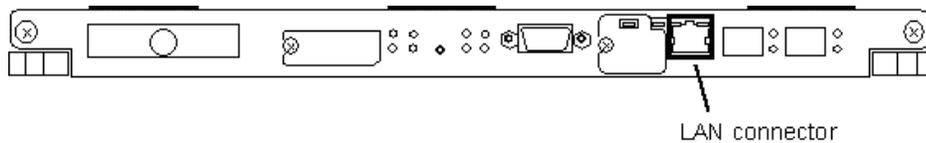

Figure 8.1 LAN Connector Location
2. Connect the LAN cable with the LAN connector shown in the Figure 8.1.